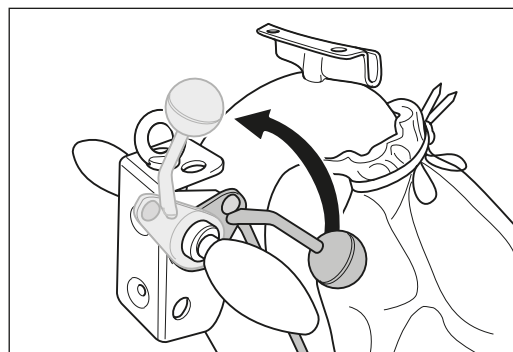

Fig. 14 Lift the sanding drum off the floor by turning the lowering lever at the handle upwards.
- 1 Lift the sanding drum off the floor by turning the lowering lever at the handle upwards (fig. 14).
- **Always lift the sanding drum off the floor before switch on the machine (fig. 14)!**
- 1 **Lift the sanding drum off the floor by turning the lowering lever at the handle upwards (fig. 14)!**